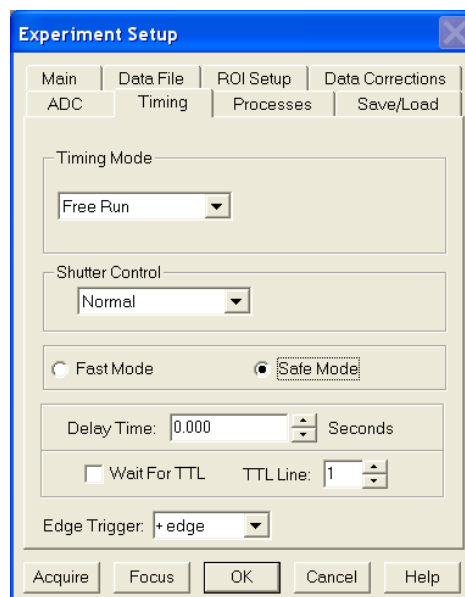

Figure 40. Timing tab
3. On the **Timing** tab (Figure 40) set the following parameters.